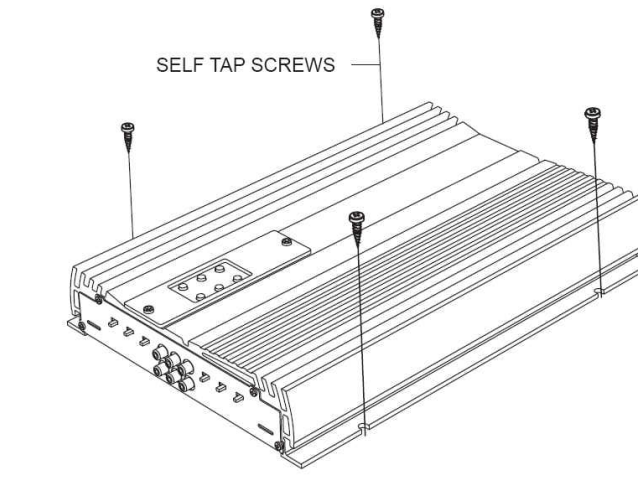

Fig.1.
1. After reading precaution, decide where you are going to install the unit. Also, see Fig. 1.